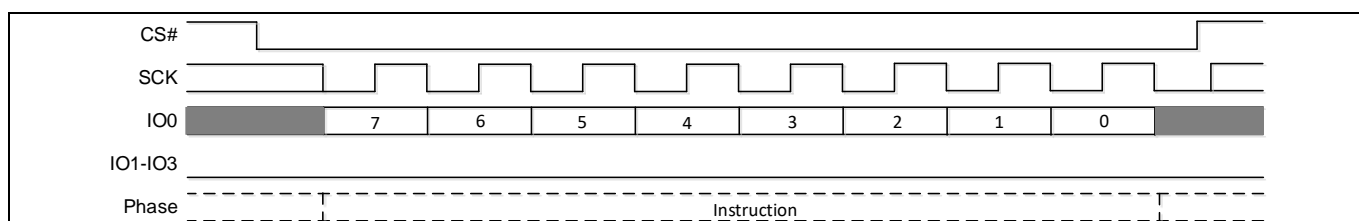

Figure 8 Stand-alone instruction command
RESET command is sent to reset devices for dual-quad as indicated by (3) in Figure 7. Before sending the RESET command, it is necessary to send the WREN command of QUAD. After sending the WREN command, the device will set the Write Enable Latch (WEL) in the Status Register to enable any write operations. RESET and WREN are stand-alone instruction commands that consist of only instruction as shown in Figure 8. See the datasheet of S25FL256S for details of the WRR command.
Figure 8 checks the WIP bit in devices to confirm the completion of the 4SE command.